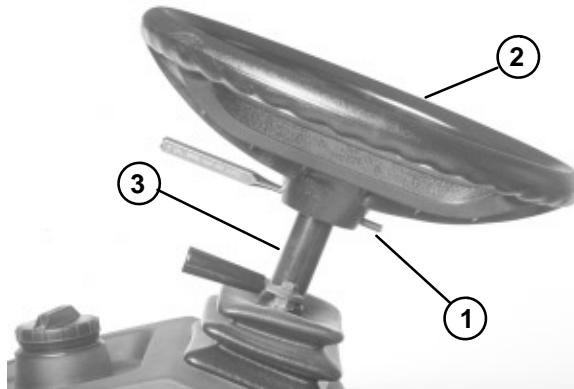

Figure 35
- Remove roll pin from the steering wheel and upper steering shaft with a drift punch. Remove steering wheel from the upper steering shaft (Fig. 35).
5. Install steering wheel onto the upper steering shaft. Secure steering wheel to upper steering shaft with the roll pin using a drift punch (Fig. 35).